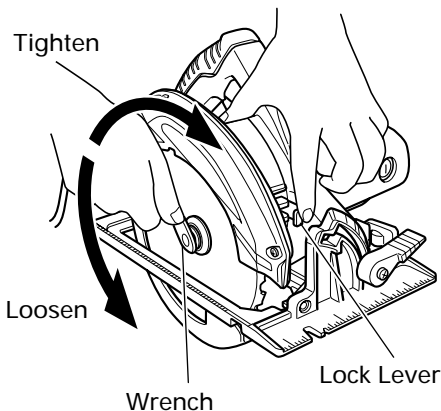
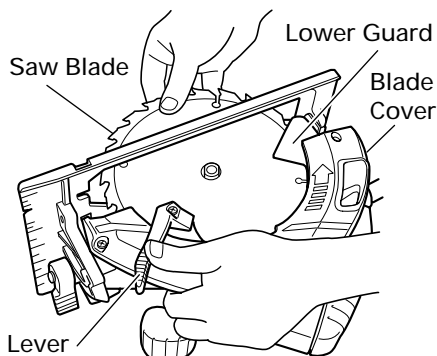

Fig. 16
Fig. 17
- (1) Set the cutting volume at maximum, and place the Circular Saw as shown in Fig. 16.
- (2) Depress the lock lever, lock the spindle, and remove the hexagonal-flange bolt and washer(B) with the wrench.
- (3) While holding the lever to keep the lower guard fully retracted into the blade cover, remove the saw blade. (Fig. 17)